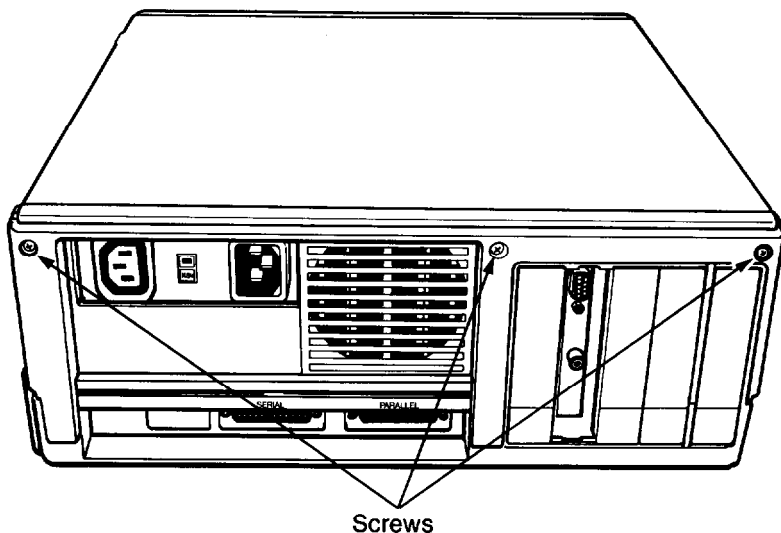

Figure 3-1. Back panel screws
2. The back panel is secured with three screws as shown in Figure 3-1. Remove the screws and put them to one side. Slip the back panel off the main unit.
The video card must be placed in the 4th slot. Figure 3-1 shows the correct placement of a video card. Most other option cards can be placed into any of the four remaining option slots, but some cards may need to be installed in a specific slot. Check the option card manual to find out if the option card has to be in a specific slot.